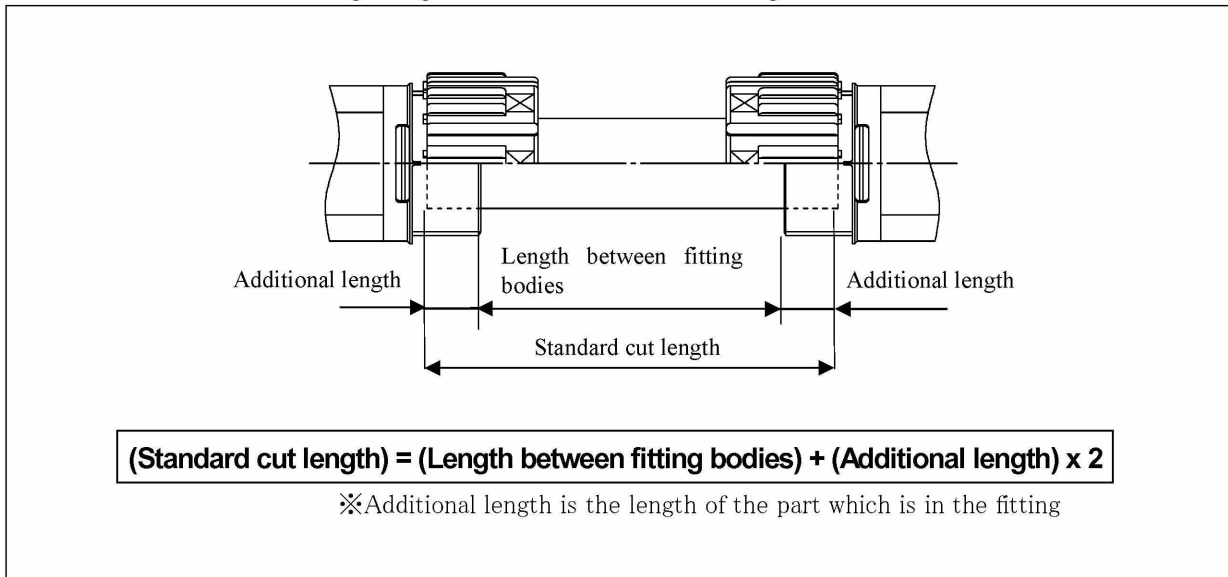

Fig. 3- Standard cut length
- Please be carried out according to Fig.3 and Table2 of the tube cutting.